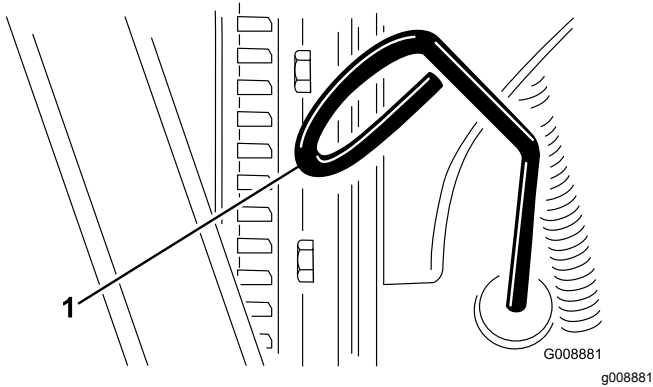

Figure 71
3. Remove the dipstick (Figure 71) and wipe it with a clean rag.